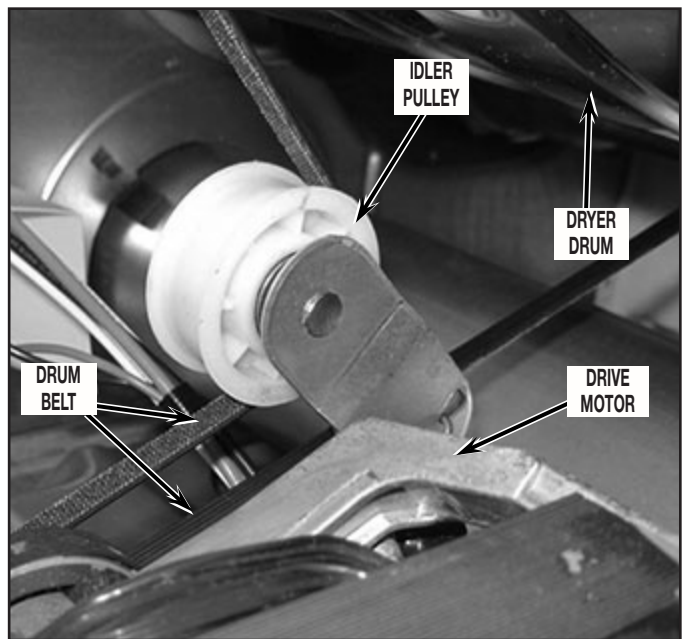

FIGURE 17
17. Remove drum from dryer by first reaching into dryer just under the drum, to back side of drive motor. Grasp idler pulley and lift up to relieve tension from belt and remove belt from motor pulley and idler pulley. Refer to Figure 17 for belt removal and reassembly.